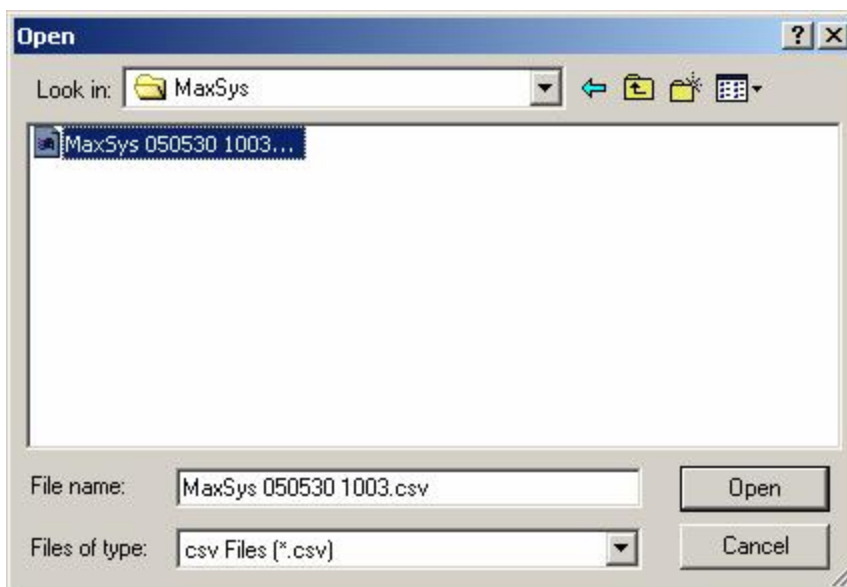

Fig. 15 Selecting the metafile
- Select the file and click 'Open' (Fig. 15).